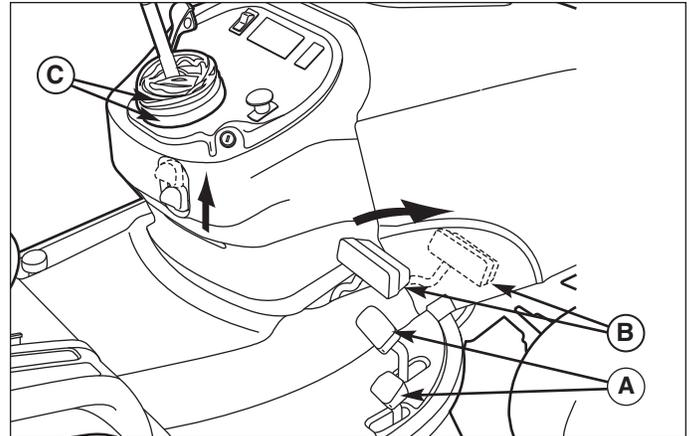

**Figure 2.2. Transmission Release Lever (4WD)**
2. Push the transmission release in approximately 2-1/2" (6.4 cm) to lock into released position (Figure 2.2).